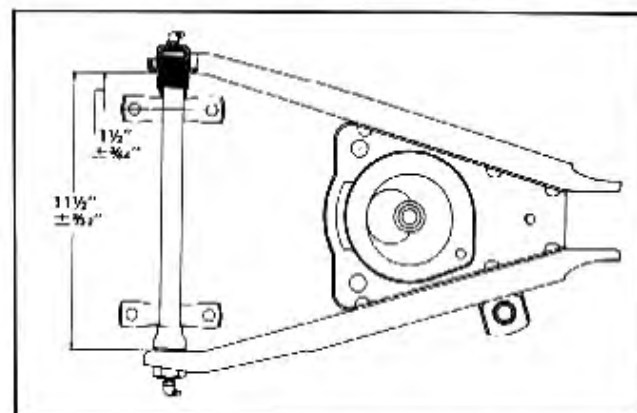

Fig. 3-20 Correct Installation of Shaft in Lower Control Arm
e. Check to see that distance between inner faces of shaft ends of control arm is $11\frac{1}{2}$ " plus or minus $\frac{3}{32}$ ". Also check to see that distances from center of pivot shaft bolt holes to inside faces of arm arc equal at each end (Fig. 3-20). Turn pivot shaft in arm to centralize if distance is not equal.